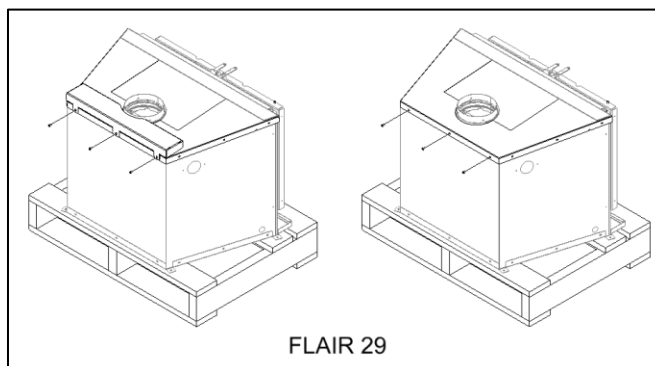

Figure 3-6: FLAIR 29 Back Shipping Bracket Removal
- e) The FLAIR 29 is equipped with a Shipping Bracket on the back. Remove it (recycle) and screw the top of the unit using the same screws as shown in Figure 3-6.